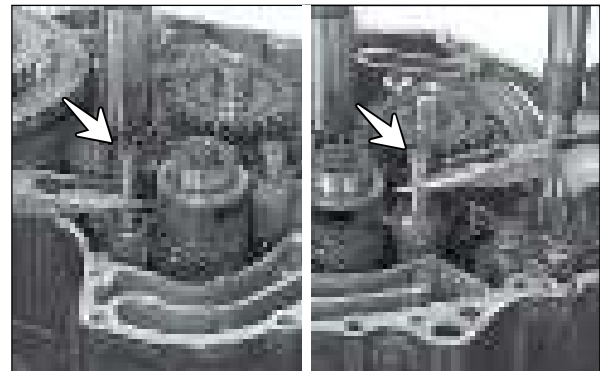

Fig. 3.200
- Assemble both the shaft shift forks in the crankcase assembly LH through fork gear shifts. (Fig. 3.200)